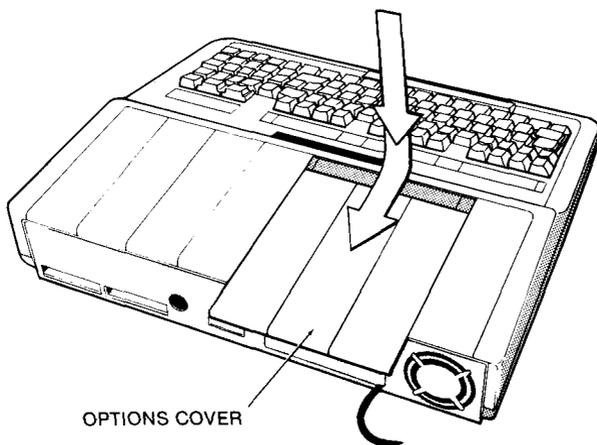

Figure 2.
1. Slide the cover on the top of the left side of the computer toward the back and remove it. See Figure 2.